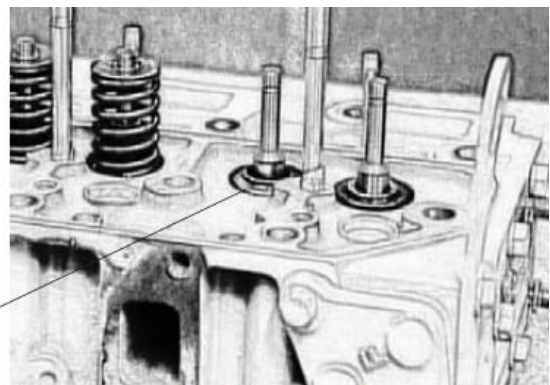

Fig 5-14 Valve Rotator
2.2 There are valve rotators on bottom of exhaust valve spring seat which makes valve rotation, improve valve seal and prolong use life (see Fig 5-14)